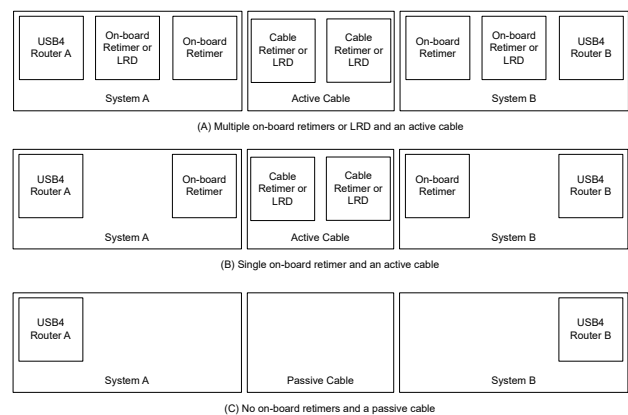

Figure 35. Possible System and cable uses cases
(1) USB4 Gen2 supports up to 2m of USB-C passive cable. USB4 Gen3 and USB4 support up to 0.8m of passive USB-C cable.
In some cases, the insertion loss between router and USB-C receptacle is too large and a signal conditioner, called a retimer (RT), is needed to overcome the deficiency. The USB4 specification allows up to two retimers between the router and the USB-C receptacle. Instead of a second retimer, the USB4 specification allows the use of a linear redriver (LRD) between the router and retimer near USB-C receptacle. A few examples of different use cases are shown in Figure 35.